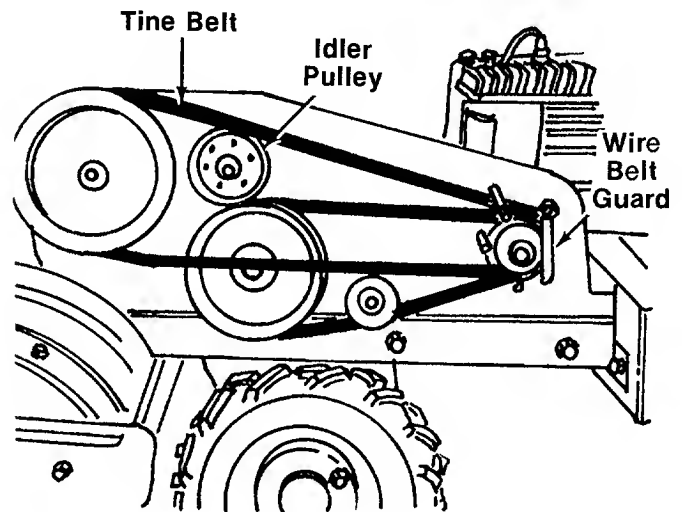

FIGURE 23.
2. Lift the belt from under the flat idler pulley. See figure 23.
3. Remove the wire belt guard. See figure 23.